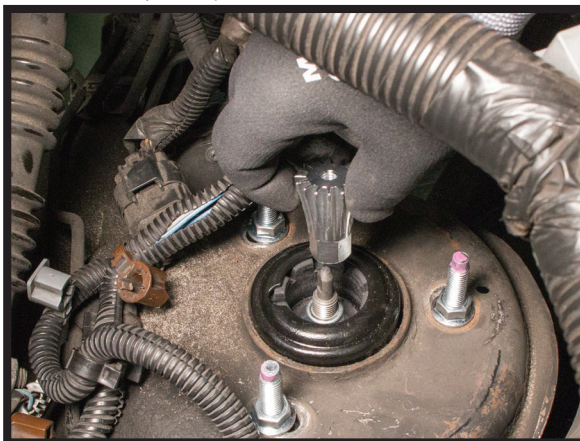

FIGURE 40-1
1. INSTALL THE COIL SENSOR BASE, PROVIDED IN THIS KIT, ONTO THE TOP OF THE SHOCK ROD. TIGHTEN UNTIL SECURE. (FIGURE 40-1, 40-2)